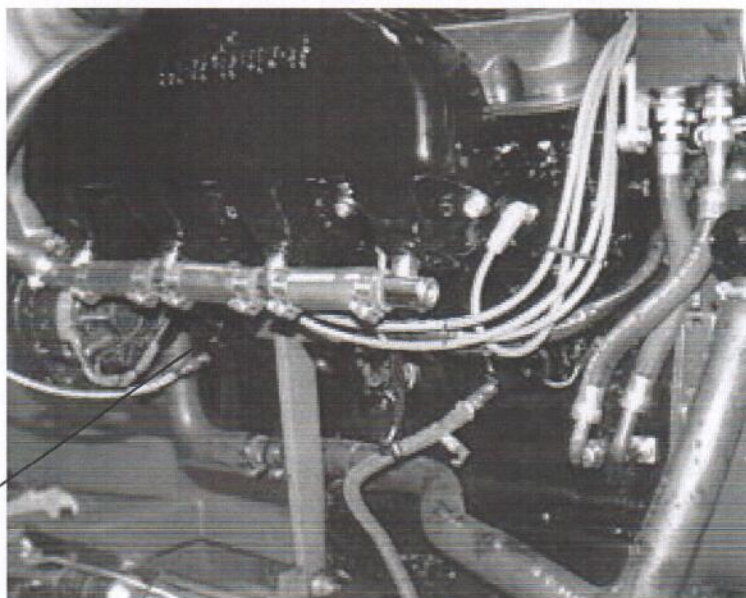

FIGURE C2
2. On the port side of the motor, locate the forwardmost plug (near the front of the motor) in the oil galley. Remove the plug and install the supplied 1/4" MPT - 4 fitting into the port. See Figure C2.